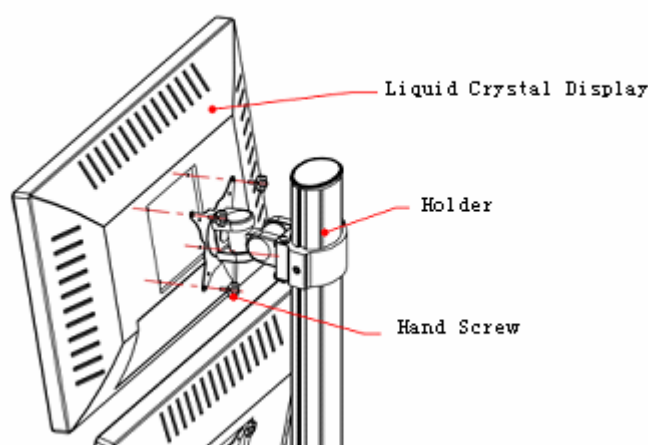

Figure 5-4 Install display
2. Install the display and the display auxiliary operation desk button box on the display holder. The tapped hole of display and button box should conform to the standard of “**VESA Interface: MIS-D-75/100mm**”. The display installation is shown in Figure 5-4.